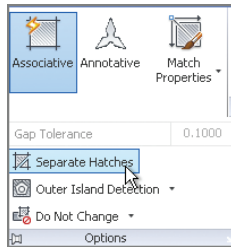

FIGURE 8.14
3. Expand the Options panel, and click Separate Hatches (see Figure 8.14).